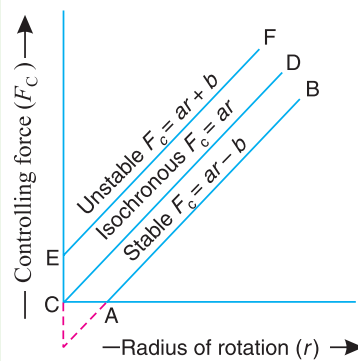

Fig. 18.40
The controlling force diagram for the spring controlled governors is a straight line, as shown in Fig. 18.40. We know that controlling force,
1. For the governor to be stable, the controlling force ( $F_C$ ) must increase as the radius of rotation ( $r$ ) increases, i.e.  $F_C/r$  must increase as  $r$  increases. Hence the controlling force line AB when produced must intersect the controlling force axis below the origin, as shown in Fig. 18.40.